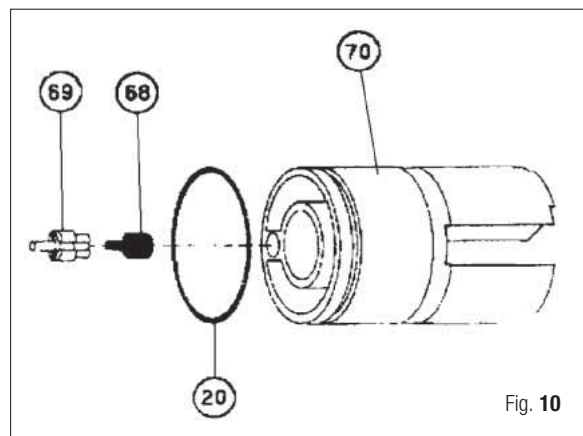

Fig. 10
34. Remove power adjustment rod (35-39) and spring (34) from handle (41).
35. Remove spring (34) from power adjustment rod.
36. Remove power adjustment lever (38) from handle (41).
37. Remove the power adjustment rod bushing (36) and O-ring (37) from handle.
38. Remove O-ring (20) from handle.
39. With a pin punch, remove catch hook pin (53), catch hook (50) and spring (44) from the barrel (26).
41. Remove one-way housing (69) and one-way seat (68) from power regulating block (Fig. 10).
42. Remove O-ring (20) from power regulating block.
43. Remove O-ring (71) from barrel with tool A-7.
44. Remove snap ring (72).
6. Insert the one-way seat (68) into the power regulating block (70) (Fig. 10).